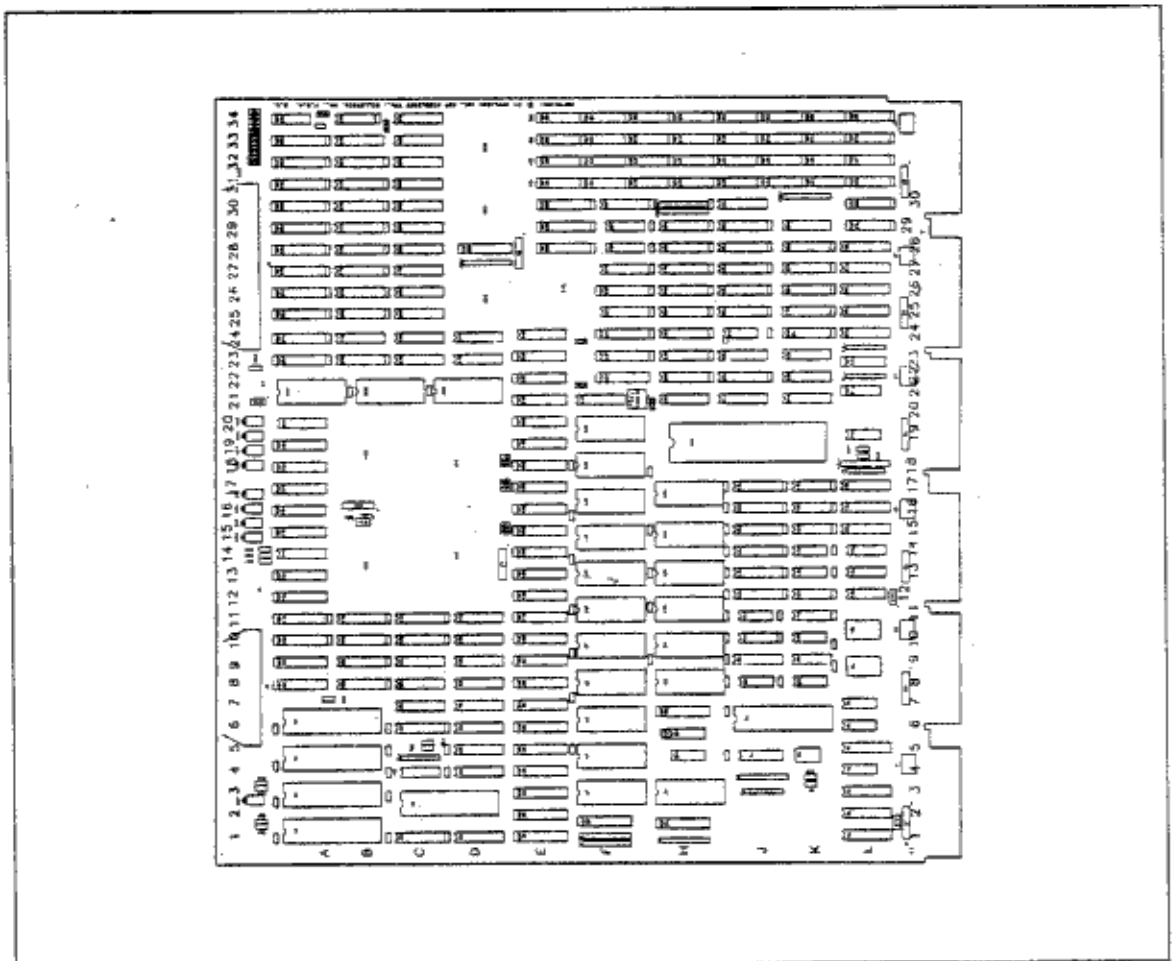

FIGURE 4-5 TRANSFORMATION PROCESSOR BOARD (XP-SME)
There are two versions of the Transformation Processor (XP). Both versions perform high-speed floating-point operations for graphic transformations such as image rotations. The XP-SME ("Solids Modeling Engine" or "Tiling Engine") version also performs tiling, shading and hidden-surface removal for solid-object representations. Figure 4-5 shows the arrangement of the XP board with SME.